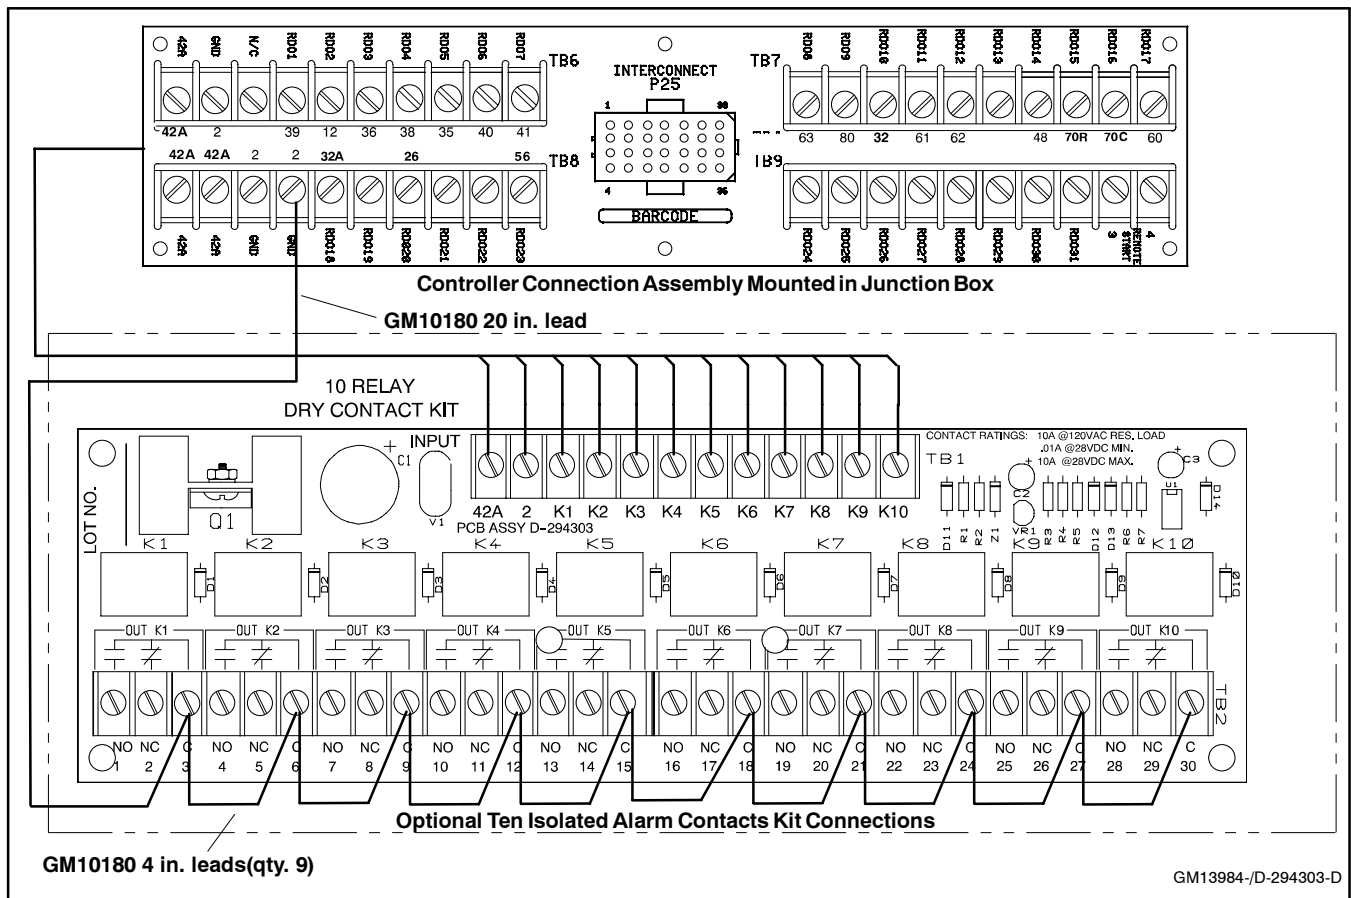

Figure 12 Wiring Harness GM10180 Connections for DC Power Supply
365569-KP10 and 365569-KP12 kits only (450-2000 kW). Install the 10-lead dry contact wiring harness (GM10180) to electrically connect the relay common (C) terminals together when using a DC power supply. See Figure 12. Remove the 10-lead dry contact wiring harness (GM10180) when applying an AC power supply.